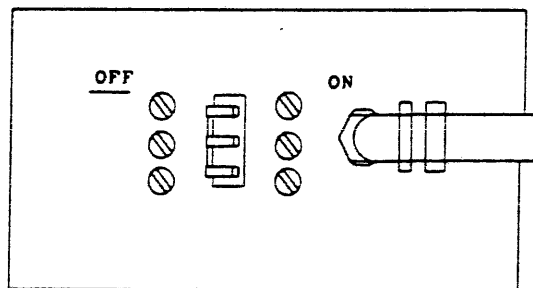

FIGURE 4-15. PRIMARY POWER INPUT CIRCUIT BREAKER AT S02 (OFF POSITION)
2. Set the CPU PRIMARY POWER INPUT circuit breaker at S02 to OFF. See Figure 4-15.